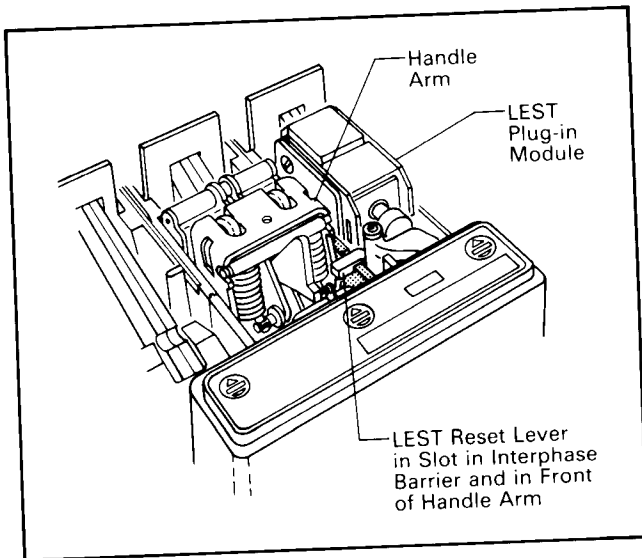

Fig. 2-4. LEST Installation
2-9. Install LEST as described in the following steps (Fig. 2-4.)
b. Press intermediate plunger into recess in trip unit, and hold in position. Slide LEST plug-in module into slots in trip unit (Fig. 2-4.) until spring-loaded retaining pin snaps into pin recess. For terminal block assemblies, slide terminal block into mounting slot on side of base as plug-in module is properly positioned.